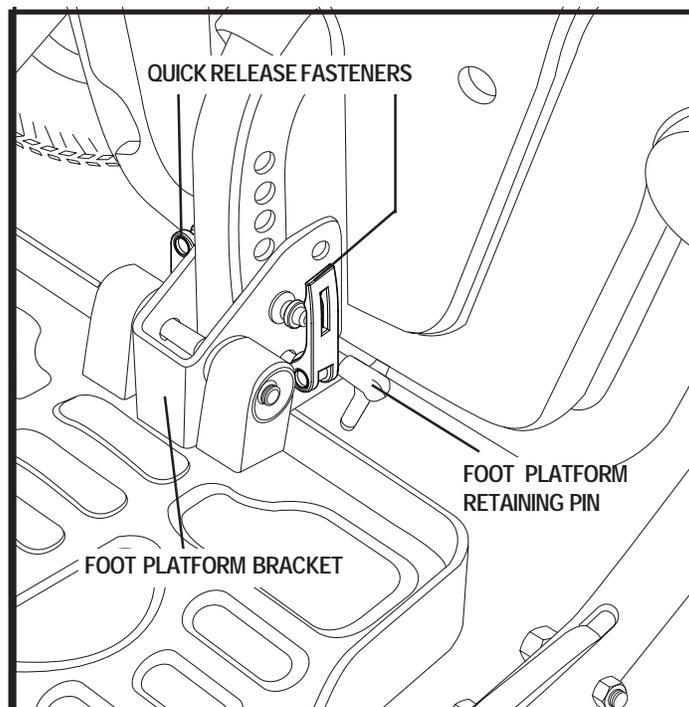
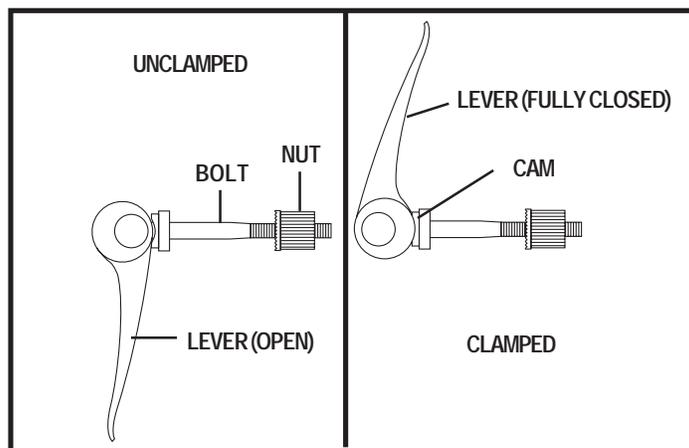

Figure 18. Foot Platform Adjustment
Figure 19. Quick Release Fastener Operation
1. Remove the quick release fasteners from the foot platform bracket. See figure 18.
**Quick Release Fasteners:** The foot platform is attached to the power base with two quick release fasteners. See figure 18. Each quick release fastener consists of a bolt, a lever and a nut. See figure 19. The lever has a cam on the end that allows it to clamp into place. The quick release fastener has two states: clamped and unclamped. When the lever is open, the quick release fastener is unclamped. When the lever is closed, the quick release fastener is clamped.